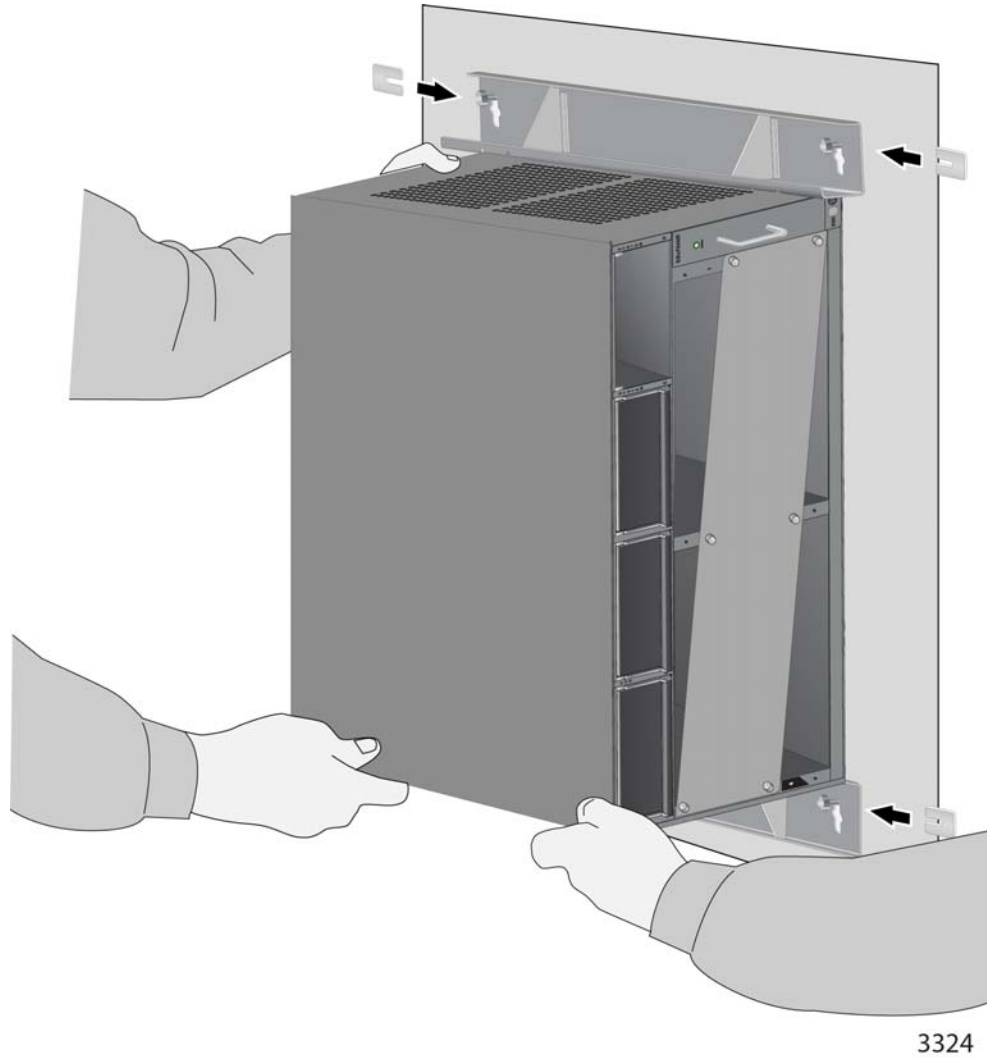

Figure 19. Installing the Washers
3. Install the four washers included with the brackets by sliding them between the screws and brackets. Refer to Figure 19 on page 37.